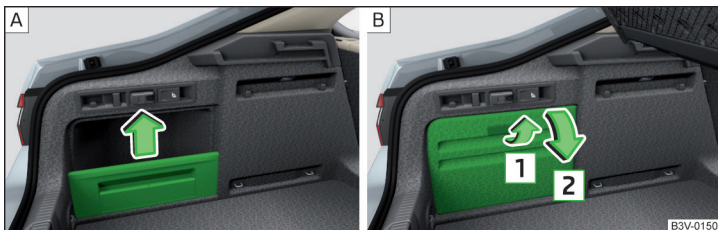

Fig. 148 Side shelf removal / open side pocket
- Open the side trays on both sides of the luggage compartment and remove » Fig. 148 on page 109 - **B**.
Located at the two sides of the luggage compartment, depending on vehicle equipment are side trays » Fig. 148 - [A] or lockable side compartments » Fig. 148 - [B].
› Remove the storage compartment cover in the direction of the arrow » Fig. 148 - [A].
› To open, pull the handle in direction of arrow **1** and open the compartment in the direction of arrow **2** » Fig. 148 [B]. The tray can be removed.
- Open the side trays on both sides of the luggage compartment » Fig. 148 on page 109 - **B**.